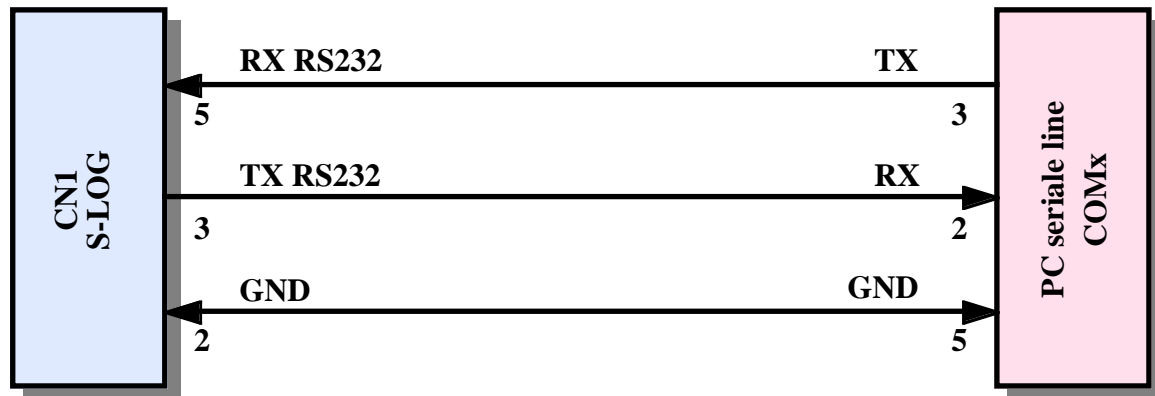

FIGURE 4: RS 232 CONNECTION BETWEEN S-LOG AND CONFIGURATION PC
- cs1) Connect the RS 232 line of saving hw **S-LOG** to a PC, as described on figures 4 and 6.